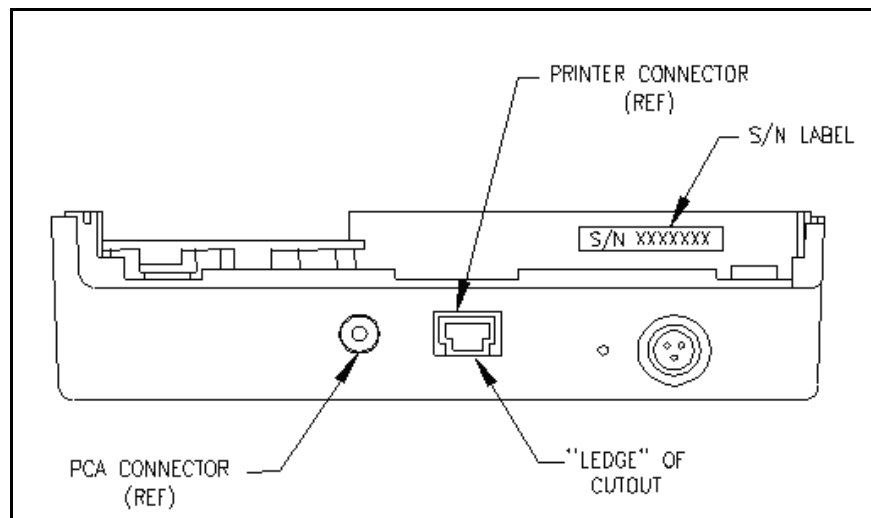

Figure 6-23. Connector Alignment
10. Ensure that the Printer Connector and the PCA Connector align with their respective port holes on the Front Case as shown in Figure 6-23.